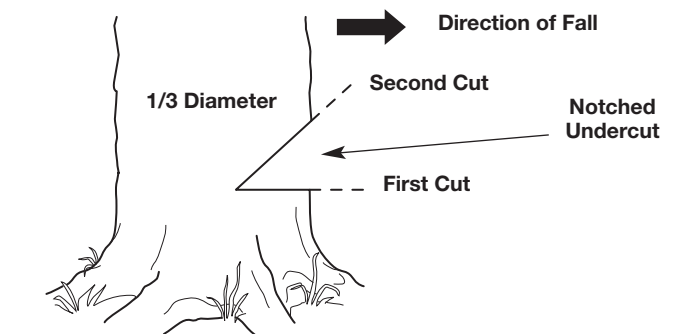

Fig. 9
1. Make a horizontal cut into the trunk of the tree (Fig. 9). The cut should be about 1/3 the diameter of the tree and close to the ground. To prevent the guide bar from being pinched by the weight of the wood, always make this cut first.
2. Make a 45° cut into the trunk of the tree, above the first cut (Fig. 9). Continue cutting until the two cuts meet.